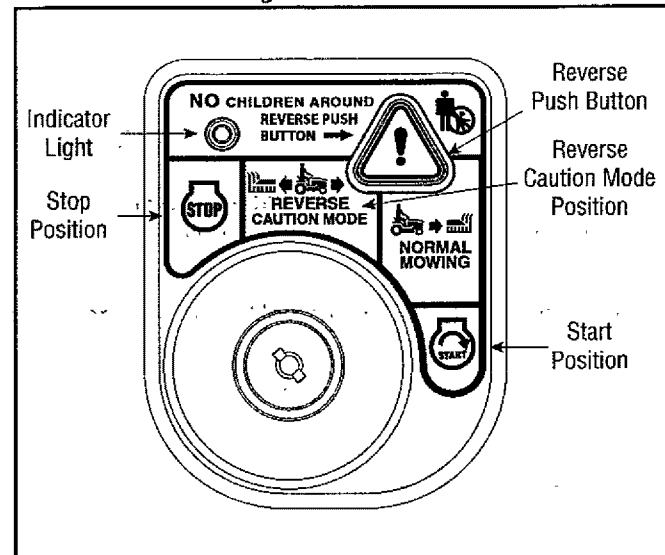

Figure 10
2. Turn the key from the **NORMAL MOWING** (Green) position to the **REVERSE CAUTION MODE** (White) position of the key switch module. See Figure 10.
3. Depress the **REVERSE PUSH BUTTON** (Orange, Triangular Button) at the top, right corner of the key switch module. The red indicator light at the top, left corner of the key switch module will be **ON** while activated. See Figure 10.